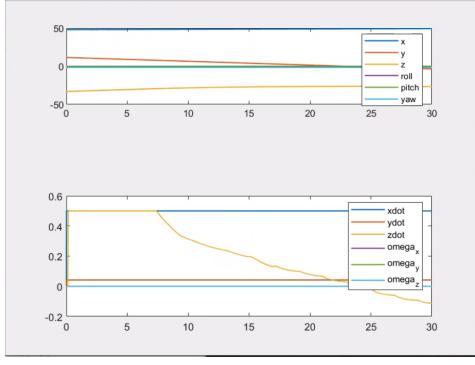

Figure 7: Position and velocity plot with Minimum Altitude threshold of 5m
- **5 m:** Again, the task is triggered immediately, because the initial position is below the minimum altitude value. This control task is a safety one, therefore every time the UVMS is under the minimum altitude, the activation is enabled and it has the highest priority. Again, it seems not a reasonable value. (Figure 7).